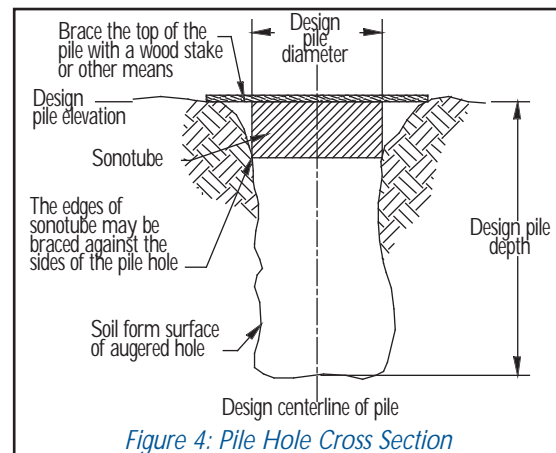

Figure 4: Pile Hole Cross Section
- The tubing can either be braced against the sides of the hole or staked to maintain elevation and location during casting. For a cross section of the pile hole see *Figure 4*.